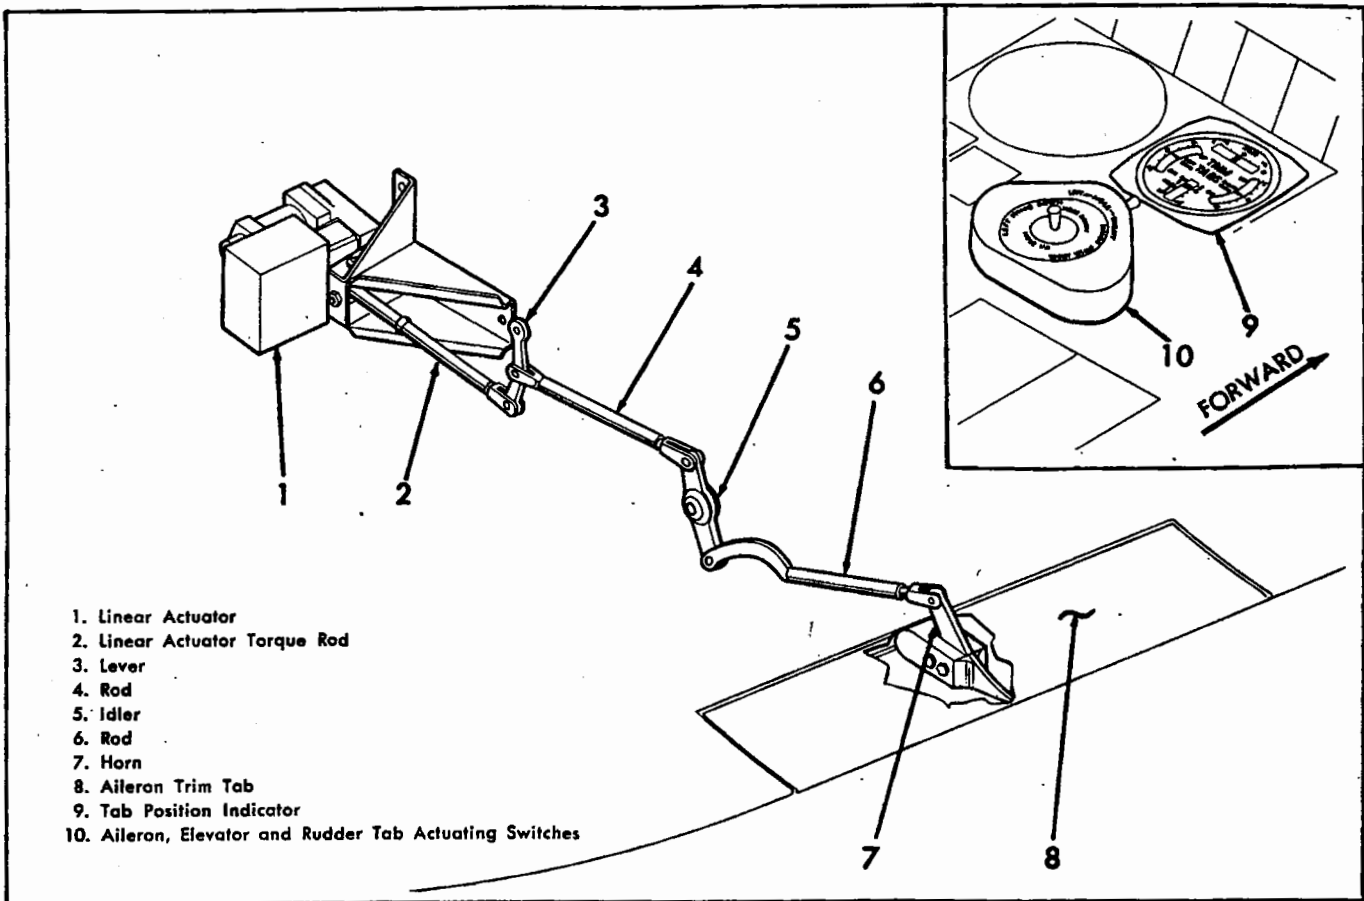

Figure 4-21. Aileron Trim Tab Control System.
4-133. DESCRIPTION. (See figure 4-21.) The aileron trim tab used in maintaining lateral trim is located in the left hand aileron and is actuated electrically through a toggle switch (10) located on the left hand console in the cockpit. The position indicator (9) is also located on the console just forward of the tab operating switch. Movement of the aileron trim tab toggle switch to the right or left will raise or lower the wing as desired, the degree of movement being indicated on the tab indicator. For further information on the indicator refer to paragraphs 4-1532 through 4-1537. The tab linear actuator (1) is located between wing stations 100 and 106.944 and is accessible through an access door on the bottom of the wing. The actuator rod (2) is connected to lever (3) which when rotated pushes or pulls rod (4) connected to the aileron tab idler (5) and actuates rod (6) connected to the aileron tab horn (7) displacing the tab (8).
4-134. REMOVING. (See figure 4-21.) Working through the access door for the tie-down and aileron control, and also the access door for the linear actuator, remove the aileron tab control linkage as follows: